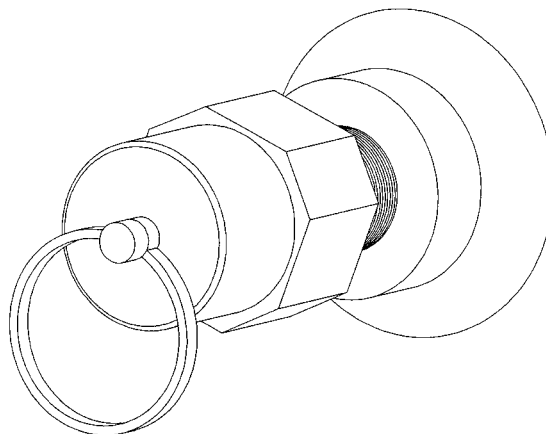

Figure 1. Pressure relief valve.
3. Under normal conditions, the transformer leaves the factory with a slight positive pressure in the tank over the oil. However, due to changes in atmospheric conditions, the unit may arrive under vacuum (negative pressure). This is itself is not cause for concern, however continued absence of either negative or positive pressure may indicate a leak at a gasket seal or tank seam, and require further investigation. To leak test transformer, remove the pressure relief valve (see Figure 1) and pressurize the headspace to ensure that there are no leaks. The test pressure should not exceed 7 psig. The established pressure should be maintained for at least four hours to ensure that all the seals are proper.